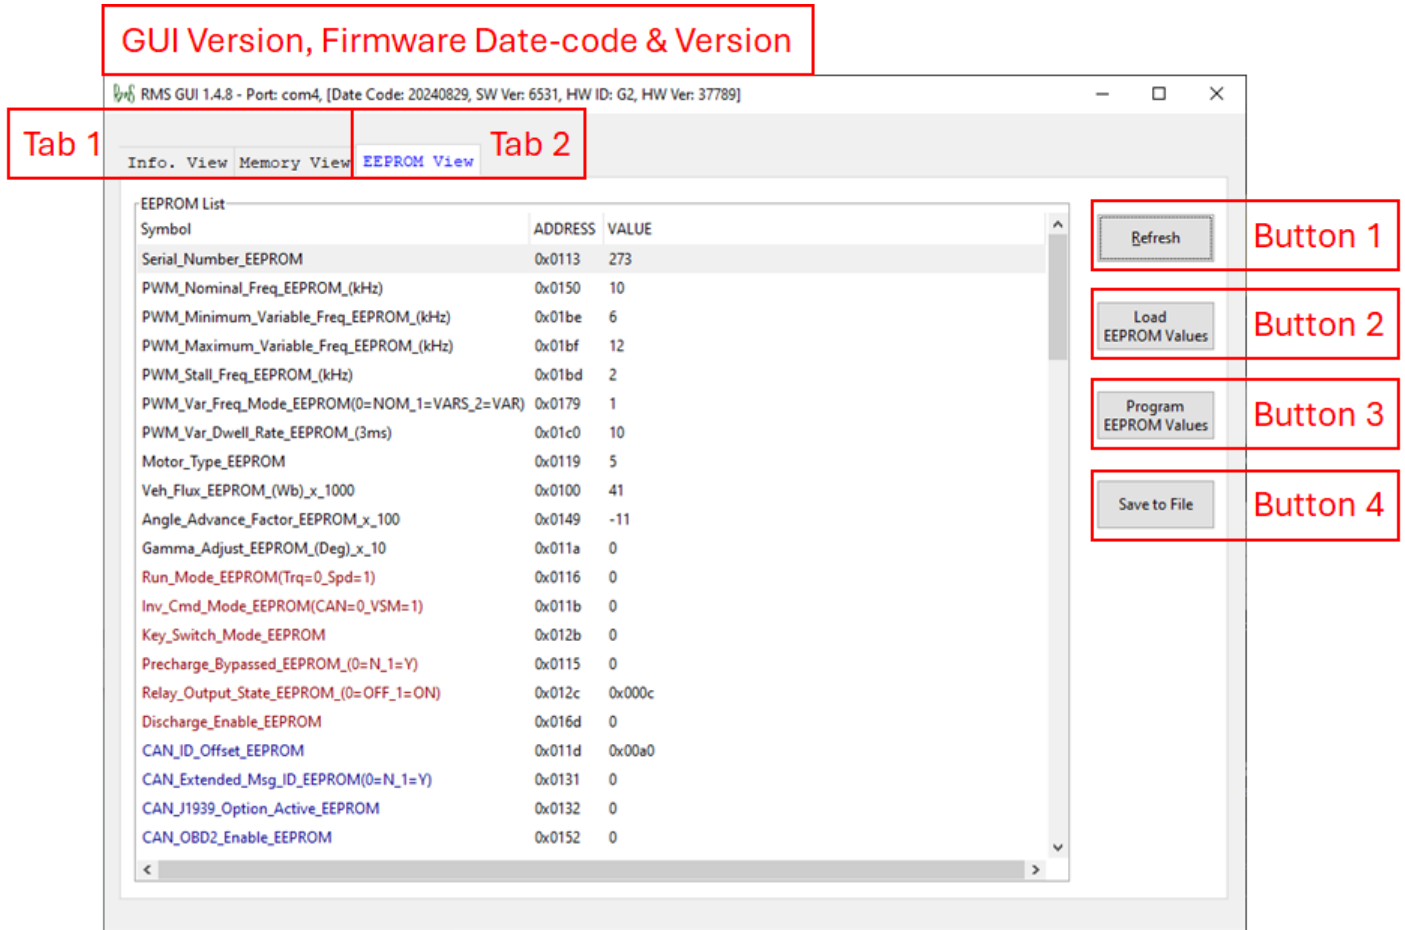

Figure 5: Uploading EEPROM Values
- (b) Click on the EEPROM View tab (labeled ‘Tab 2’ in figure 5). This will display all EEPROM parameters that can be programmed by the user.
- (d) When all values are changed, click on the Program EEPROM button (labeled ‘Button 3’ in figure 5).
You can also load a predefined set of values by using the Load EEPROM Values button (labeled ‘Button 2’ in figure 5).